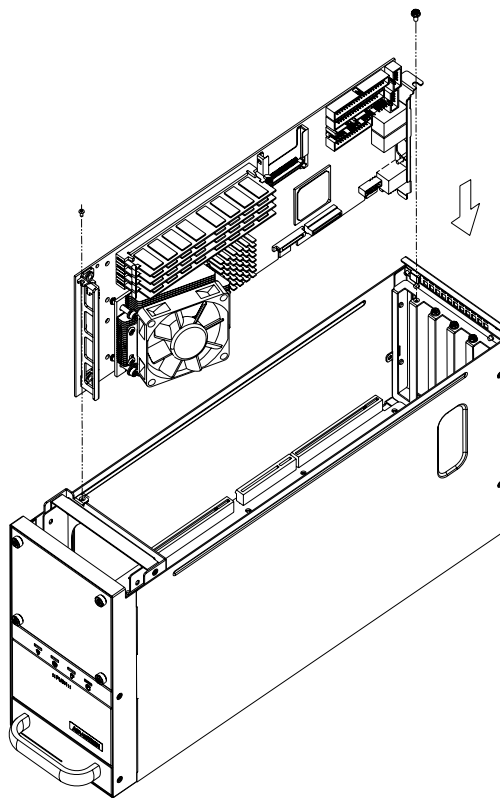

Figure 2.3 Installing a CPU card
2. Insert the CPU card (with CPU, CPU cooler, RAM, and necessary cables installed) and add-on cards vertically into the proper slot. For full-length CPU card, please make sure that the card bracket has been inserted properly and the other edge of the card has been inserted into the plastic guiding fillister. Fasten the screws on the top of both brackets of the card. (See Figure 2.3, Figure 2.4)